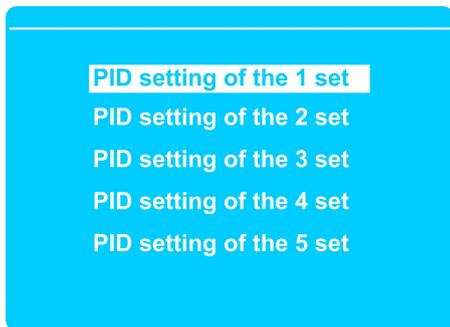

Figure 5.9-20
1. Under the interface shown in Figure 5.9-15, select 2. Grouping and press  to enter the submenu of PID setting, as shown in Figure 5.9-20. Under the interface shown in Figure 5.9-20, press  or  to select PID group for setting (take the first group as an example) and press  to enter setting interface for the first group of PID
- On the interface of Figure 5.9-21 are temperature ($^{\circ}\text{C}$), proportion (P), integral (I), differential (D) and (S). The temperature value is that for tuning under the menu of PID Self-tuning and two groups have the same number (it is suggested for the user to only change the temperature setting and obtain the other four items by PID self-tuning). Press  for cyclical selection among four parameters, press  or  for cursor shift, press  or  for value change and press  after confirmation. Thus, the temperature controller will automatically save data and enter modification of the next item. If the modification is completed or given up, press  for return to the interface shown in Figure 5.9-20.
3. Under the interface shown in Figure 5.9-20, you can continue to set next group of parameters by the method mentioned above.